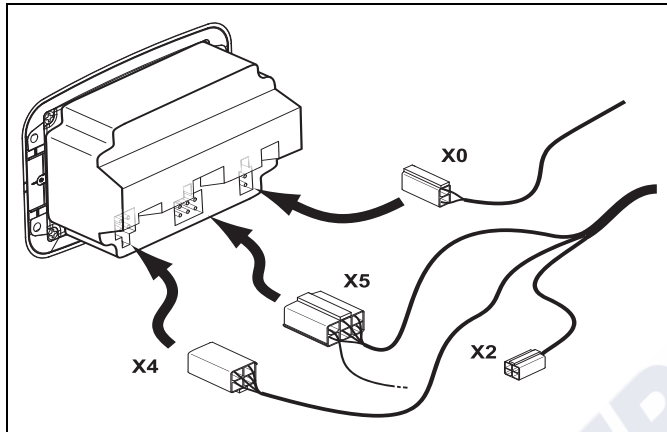

Fig. 51: Electrical connections of manual heater control
- Connect plug X4 (4 poles) of the wiring harness to the Control Panel (see Fig. 51).
- Connect plug X0 (2 poles) of the inside temperature sensor to the heater control (see Fig. 51).